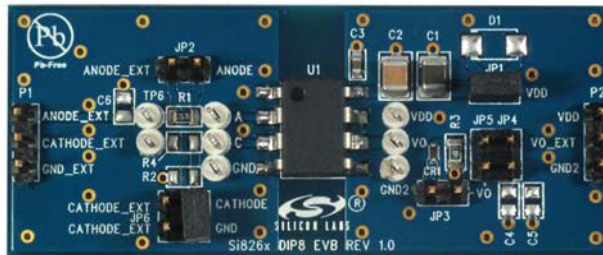

Figure 1. Si826x DIP8 Evaluation Board Overview
- Si826x based evaluation board as shown in Figures 1 through 4.
1. Ensure that JP1 and JP6 are installed as shown in Figure 1, 2, 3, or 4.